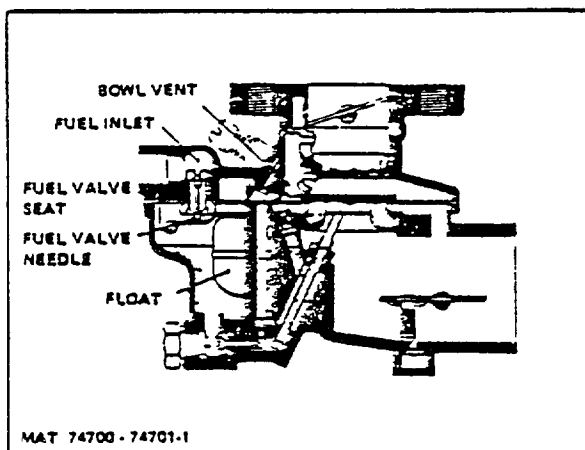

Figure 3. Fuel Supply System
1. Fuel Supply System. Fuel under pressure is supplied through the fuel inlet fitting, fuel valve (needle and seat) to the float chamber, see Figure 3. The float in the float chamber automatically regulates the opening through the fuel valve (needle and seat) to maintain the proper level of fuel in the fuel bowl and to meet the demands of the engine according to engine load and speed.